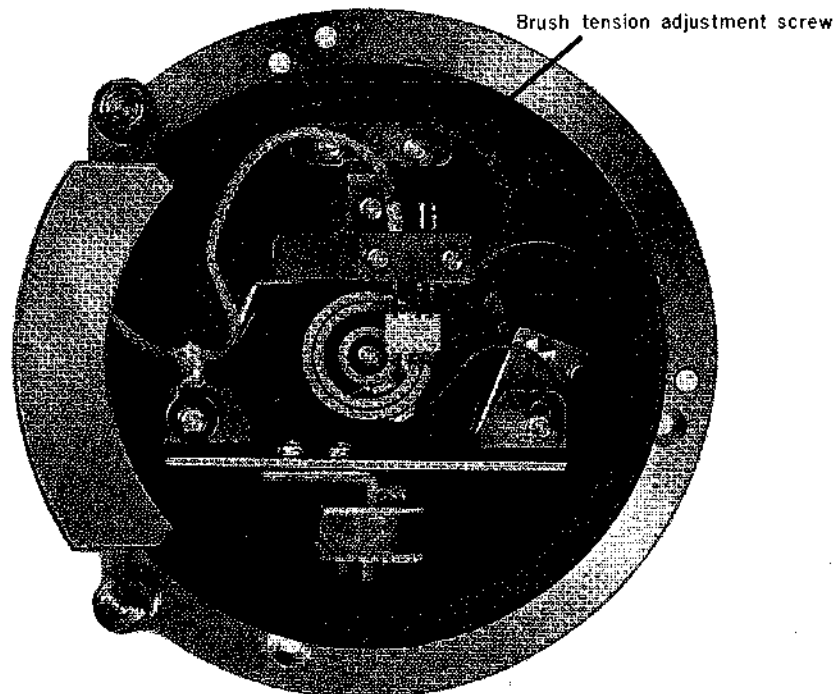

Fig. 15
- (a) Adjust brush tension by tightening tension adjustment screw (from place where brushes touch surface of slip ring) about 1/4 turn. (Refer to Fig. 15).